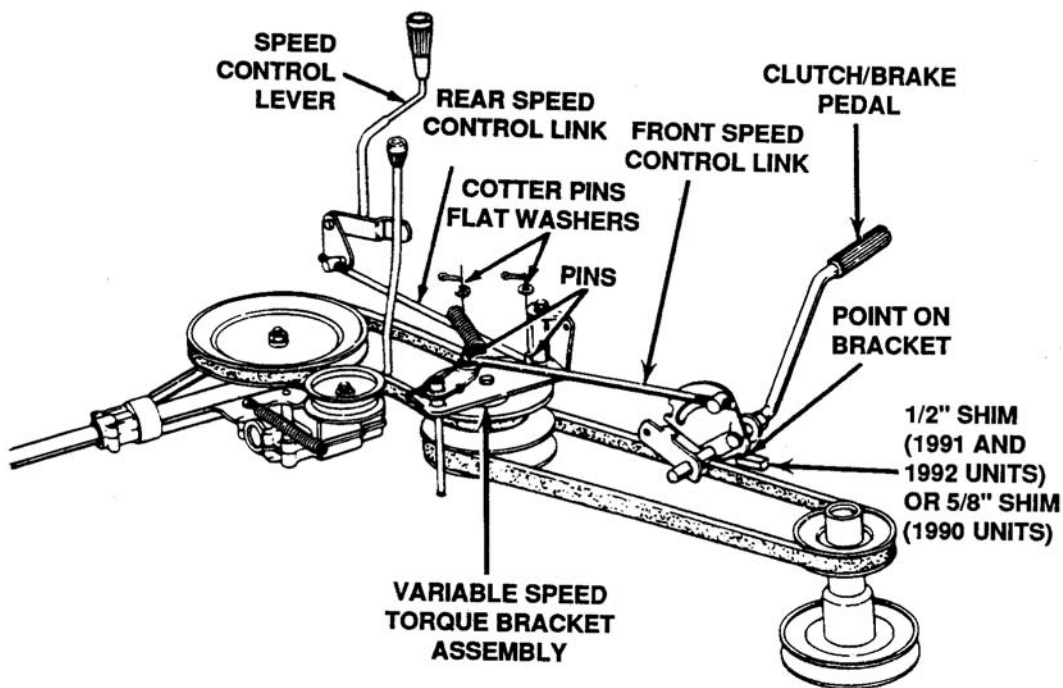

Figure 7-31. Speed Control System
Speed Control Adjustment. See Figure 7-31.
- j. Place a 1/2 inch shim (for 1991 and 1992 units) or a 5/8 inch shim (for 1990 units) under the point of the bracket on the clutch/brake pedal as shown in Figure 7-31.